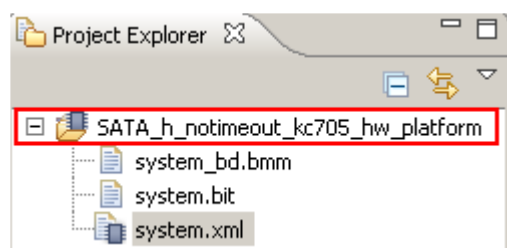

Figure 4-3 Hardware platform in SDK
- 2) Select “workspace” folder. In demo project, “workspace” is subfolder within “SDK” folder. Then, hardware platform will be exported to project explorer of SDK, as shown in Figure 4-3.